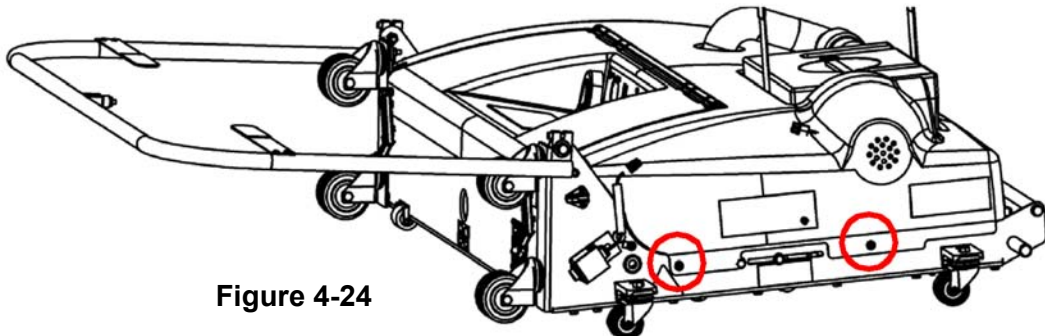

Figure 4-24
1. Unlatch the oil compartment door latches, disconnect the vacuum hose and remove the waste tank, remove the cap from the cleaner tank, remove the two screws from each side of the hood (see Figure 4-24), and lift the hood from the frame. Set the screws aside.